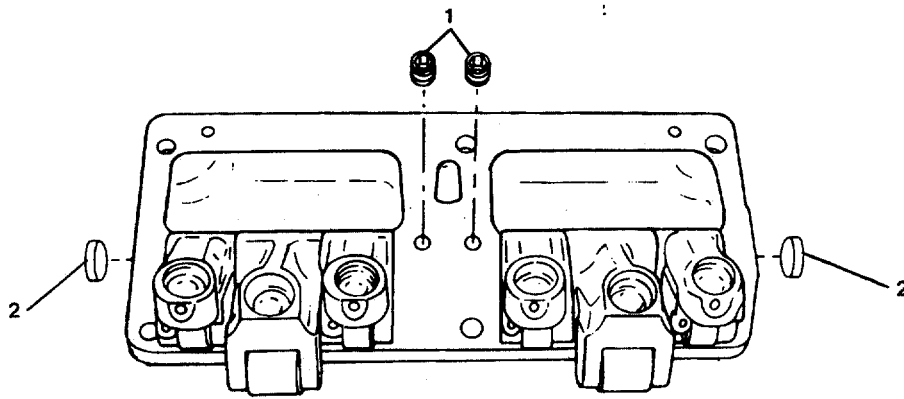

FIGURE 4-17. Cam Follower Lockscrews.
- a. Remove the lockscrews (1) that hold the shafts in the housing (FIGURE 4-17).
- b. Remove the expansion plugs (2) from the ends of the housing.
(Reference No. Keyed to Figure 4-17 Callouts)
- c. Install a temporary screw in the shaft (5). This will prevent breakage of the lock screw when the plug is installed in the housing.
- (1) Use the expansion plug driver to install the expansion plug (2, FIGURE 4-17).
- (2) Install the plug (2) so it is at least even with the edge of the hole or not more than 0.010 inch (0.25 mm) below the edge of the hole.
- e. Remove the temporary screws and install the lock screws in the shafts (21).